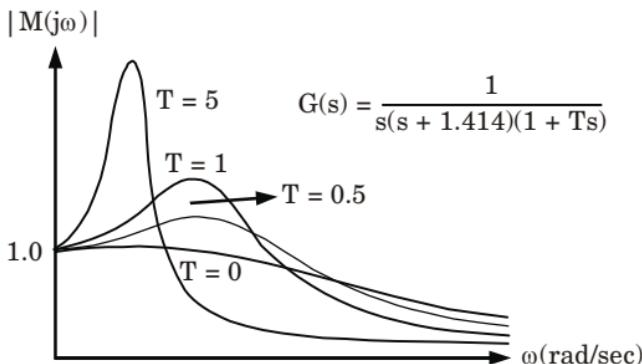

Fig. 17. Magnification curves for a third-order system with a forward-path transfer function $G(s)$.
- We can obtain a qualitative indication on the bandwidth properties by referring to Fig. 17, which shows the plots of $|M(j\omega)|$ versus ω for $\omega_n = 1$, $\zeta = 0.707$, and various values of T . Since the system is now of the third order, it can be unstable for a certain set of system parameters.